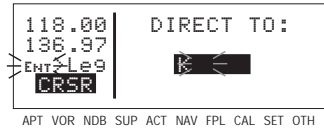

Figure 4-88
3. Turn the right outer knob one click clockwise to move the flashing portion of the cursor over the second character position (figure 4-88).